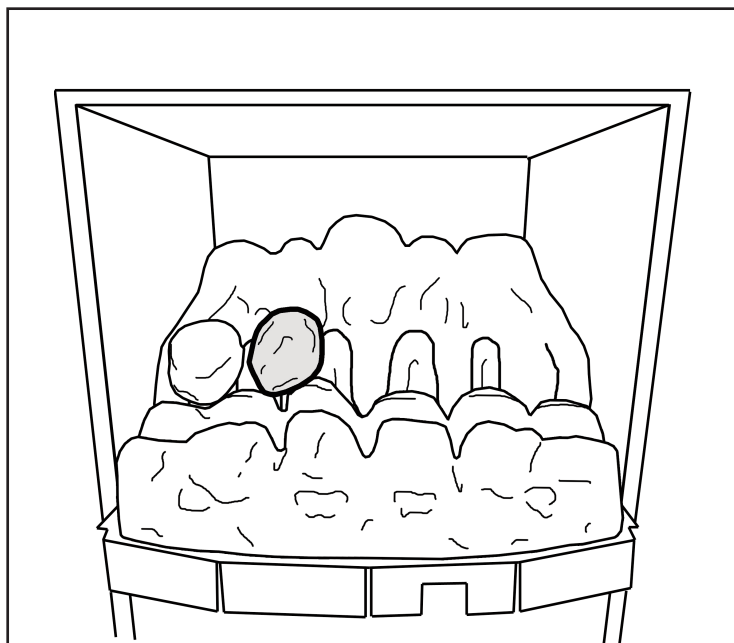

Figure 4. Second row "Coal B"
5. Hold coal 'B' upright with the arrow pointing to the top. Locate coal 'B' as shown in figure 4.